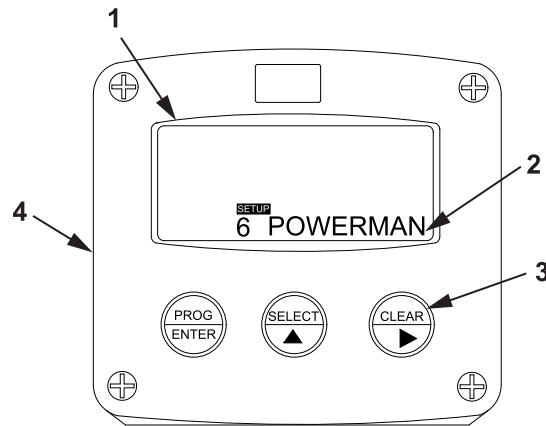

Figure 32. POWERMAN Display.
- f. Verify that POWERMAN (Figure 32, Item 2) appears on the display screen (Figure 32, Item 1).
- g. Press the CLEAR key (Figure 32, Item 3) on the tank volume meter monitor (Figure 32, Item 4).